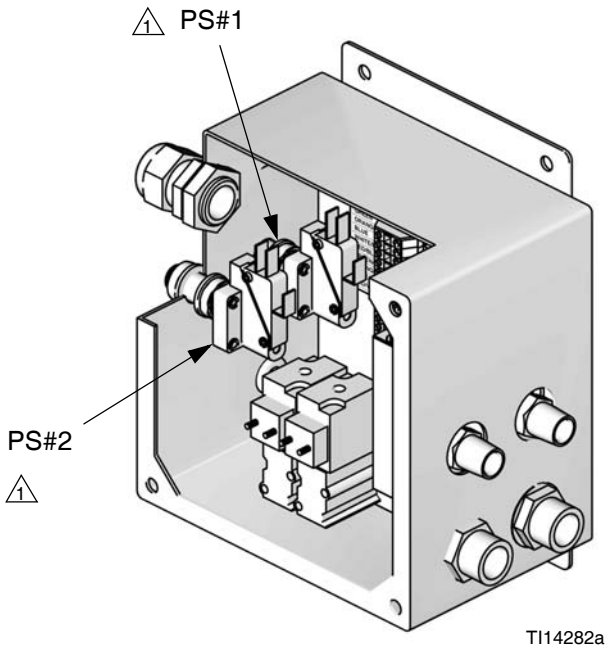

FIG. 4. Install Pressure Switch (two shown)
1. Each gun flush box kit includes one pressure switch (PS). The Air Control module can accommodate 1 or 2 pressure switches. Install the switch(es) in the left side of the enclosure. See Fig. 4.